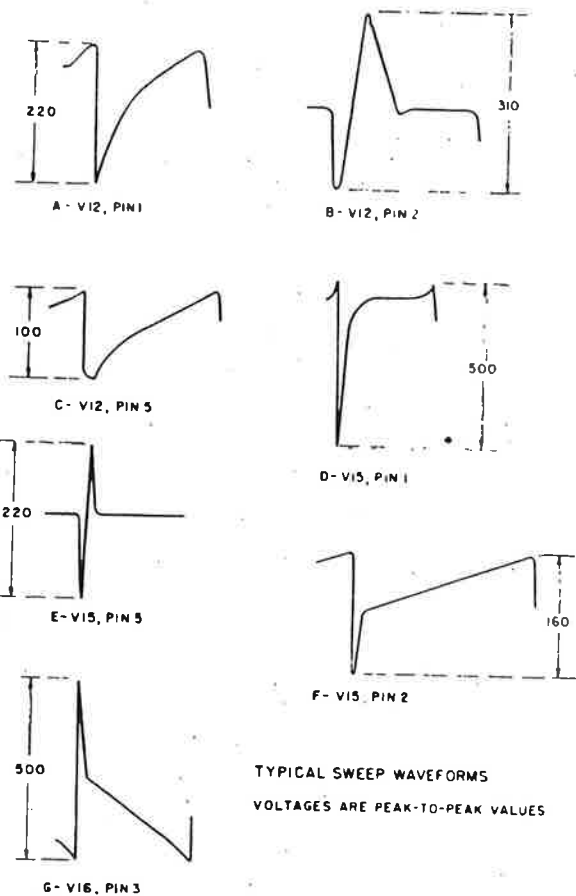

Figure 5-3—Sync Circuit Waveforms
c. WAVEFORM ANALYSIS: (See figure 5-3). The sweep voltages produced in the horizontal and vertical deflection circuits indicate typical operating conditions.